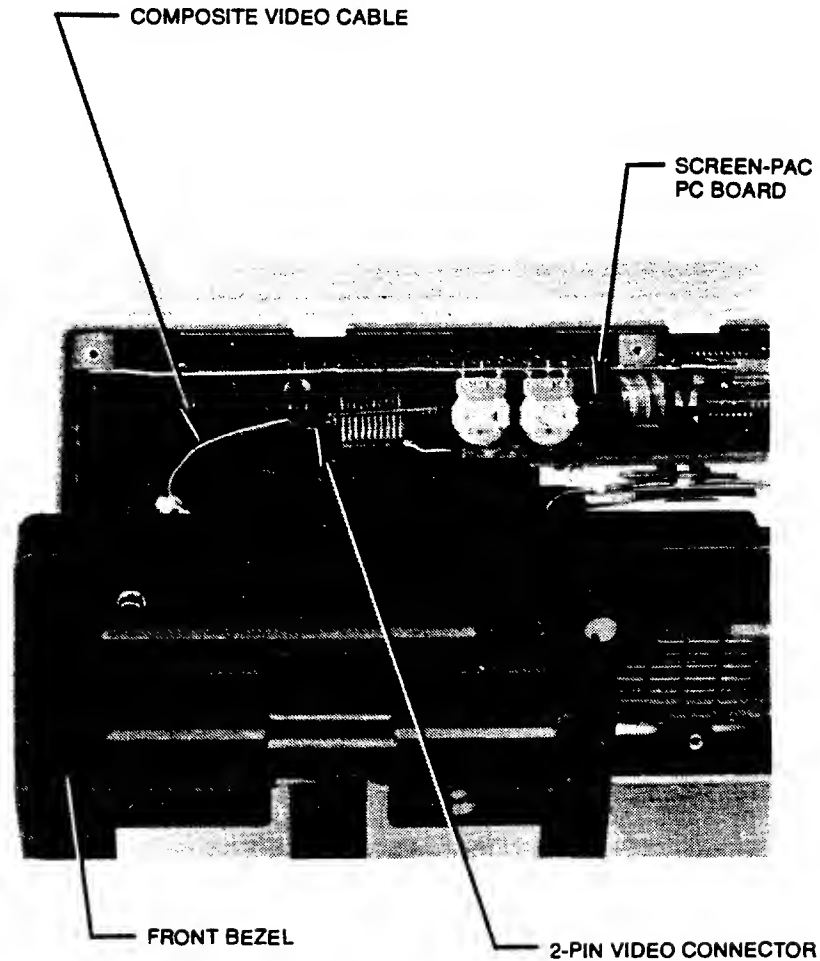

FIGURE 6-37. VIDEO CABLE CONNECTION
- 6.12.6.4 Connect the RCA video cable to the 2-pin connector behind position P2 on the SCREEN-PAC board. The RCA video cable is keyed to fit only one way (Figure 6-37).